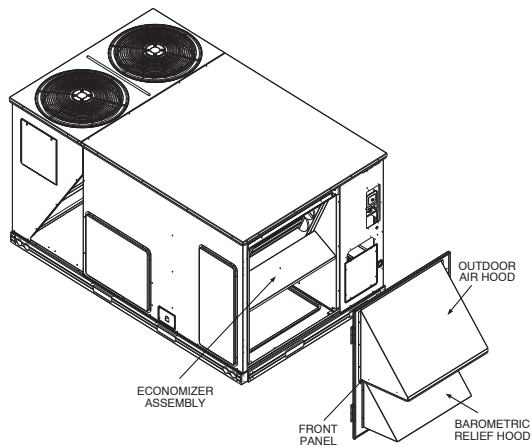
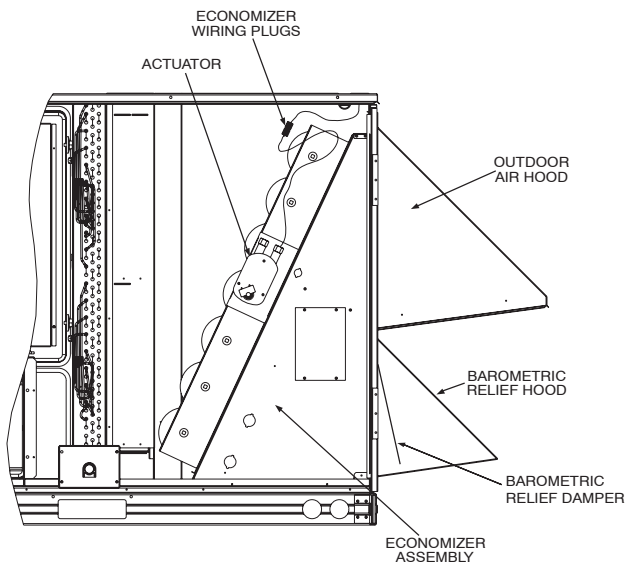

Fig. 5 – Install Economizer Front Panel
Fig. 6 – Side View of Vertical Economizer Installation
6. Slide the EconoMiSer IV assembly into the return air section of the rooftop unit as shown in Fig. 5. When installed, the front flanges of the EconoMiSer IV will be flush with the rooftop unit.
9. The outside air hoods and barometric relief hoods are factory installed on the EconoMiSer IV front panel/hood assembly. Lift the panel in place over the front of the EconoMiSer IV. (See Fig. 5.) Attach the panel to the unit with the screws saved from Step 2. Use self-drilling screws (provided) to secure hinges on panel to unit. (See Fig. 6 and 7.)
- The barometric relief damper is screwed in place for shipping purposes. Remove shipping screw to allow for blade movement. The 16 size has 2 dampers. (See Fig. 6.) DO NOT REMOVE THIS PANEL.